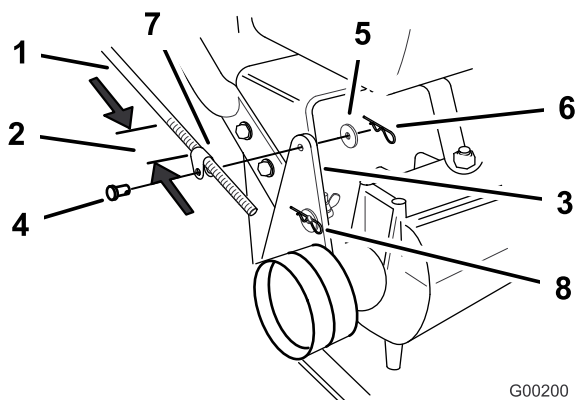

Figure 9
- Make sure the rod fittings are equal distance onto each control rod. The rod fittings should be approximately 3-1/2 inch (89 mm) from the start of the threads for the handles lowest position (Figure 9).
- Slide clevis pins through rod fittings and mounting holes in idler brackets (from outside) (Figure 9). Secure with washers and hairpin cotters (Figure 9).